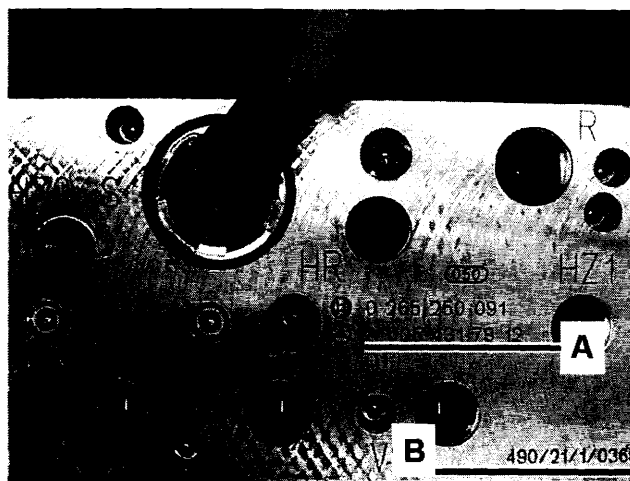

Figure 1
1. Check if SBC hydraulic unit part number (A, Figure 1) is listed in the table below:
- If the part number (A) is **not** listed, proceed to step 3.
- If the part number (A) **is** listed, proceed to step 2.
2. Check (refer to table below) if the production number (B, Figure 1) is within the listed production number range for the relevant part number (A):
- If the production number (B) is **not** within the production number range, proceed to step 3.
- If the production number (B) **is** within the production number range compared to the relevant part number; proceed to Subject **B**, Replacement of SBC Hydraulic unit.
When reading the production number (B, Figure 1) on the SBC hydraulic pump, disregard the slashes. The production number should be read as a whole number: